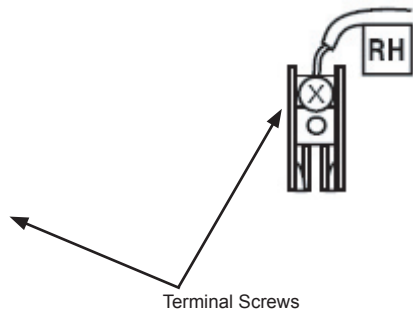

Figure 4
- Match and connect the labeled wires to the appropriate coded terminal screws on the wallplate. See Figure 4. Ignore any wires which may be present, but which were not connected to the old thermostat.